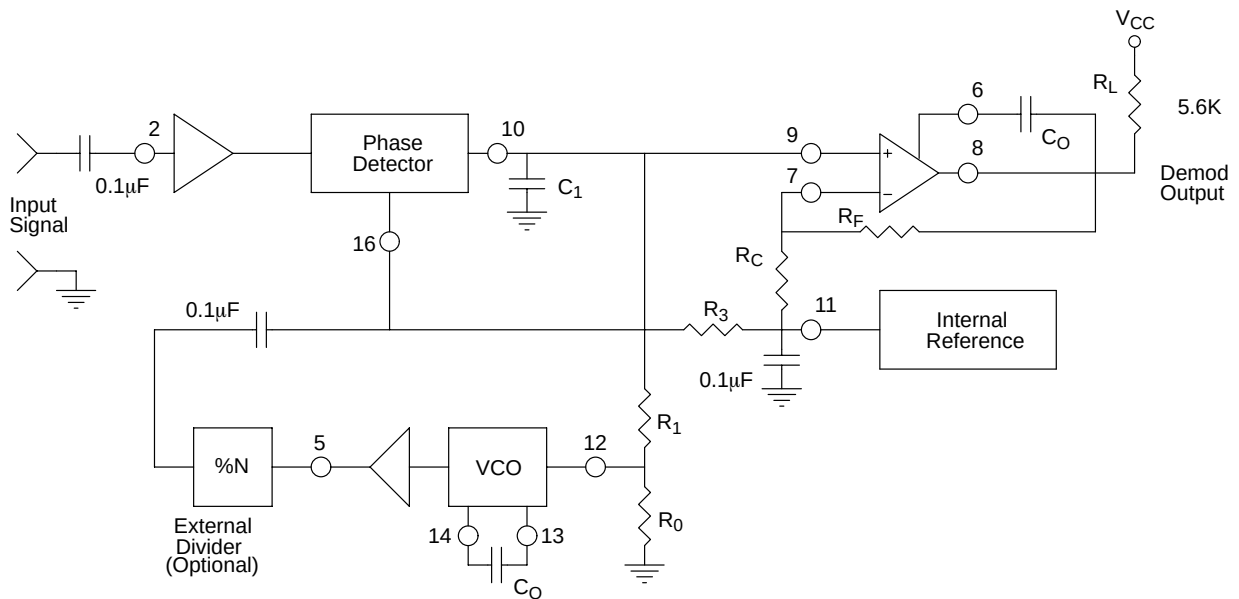
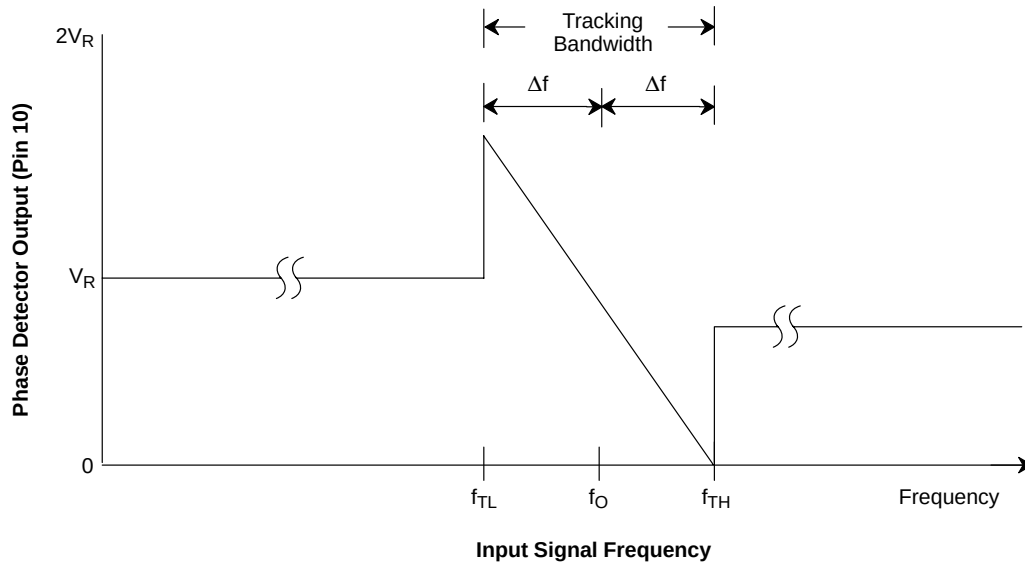
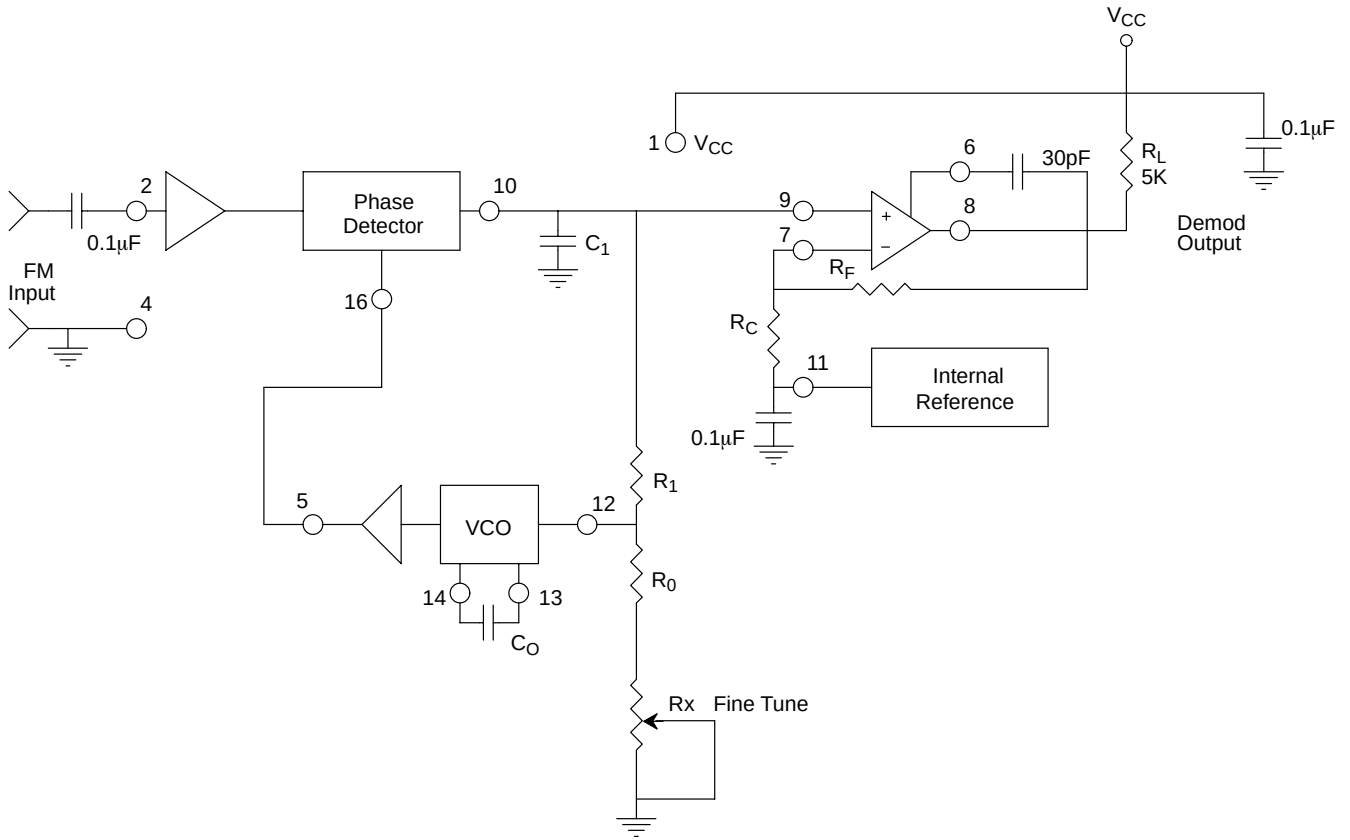

Figure 3. Generalized Circuit Connection for FM Detection, Signal Tracking or Frequency Synthesis
Figure 10. Phase Detector Output Voltage (Pin 10) as a Function of Input Signal Frequency
Figure 11. Circuit Connection for FM Demodulation
Test Conditions: $V_{CC} = +12V$, $T_A = +25^\circ C$, $R_0 = 30k\Omega$, $C_0 = 0.033\mu F$, unless otherwise specified. See *Figure 3* for component designation.
Phase Detector Output (Pin 10): This terminal provides a high-impedance output for the loop phase-detector. The PLL loop filter is formed by R_1 and C_1 connected to Pin 10 (see Figure 3). With no input signal, or with no phase-error within the PLL, the DC level at Pin 10 is very nearly equal to V_{REF} . The peak voltage swing available at the phase detector output is equal to $\pm V_{REF}$.
VCO Frequency Adjustment: VCO can be fine-tuned by connecting a potentiometer, R_X , in series with R_0 at Pin 12 (see Figure 11).
Figure 10 shows the basic frequency to voltage characteristics of XR-2212. With no input signal present, filtered phase detector output voltage is approximately equal to the internal reference voltage, V_{REF} at Pin 11. The PLL can track an input signal over its tracking bandwidth, shown in the figure. The frequencies f_{TL} and f_{TH} represent the lower and the upper edge of the tracking range, f_0 represents the VCO center frequency.
(See *Figure 3* and *Figure 10* for definition of components.)
7. VCO Conversion Gain, K_0 : (K_0 is the amount of change in VCO frequency, per unit of DC voltage change at Pin 10. It is the reciprocal of the slope of conversion characteristics shown in *Figure 10*).
XR-2212 can be used as a linear FM demodulator for both narrow-band and wide-band FM signals. The generalized circuit connection for this application is shown in *Figure 11*, where the VCO output (Pin 5) is directly connected to the phase detector input (Pin 16). The demodulated signal is obtained at phase detector output (Pin 10). In the circuit connection of *Figure 10*, the op amp section of XR-2212 is used as a buffer amplifier to provide both additional voltage amplification as well as current drive capability. Thus, the demodulated output signal available at the op amp output (Pin 8) is fully buffered from the rest of the circuit.
In the circuit of *Figure 11*, R_0C_0 set the VCO center frequency, R_1 sets the tracking bandwidth, C_1 sets the low-pass filter time constant. Op amp feedback resistors R_F and R_C set the voltage gain of the amplifier section.
The circuit of *Figure 11* can be tailored to any FM demodulation application by a choice of the external components R_0 , R_1 , R_C , R_F , C_0 and C_1 . For a given FM center frequency and frequency deviation, the choice of these components can be calculated as follows, using the design equations and definitions given on page 10.
Note: All calculated component values except R_0 can be rounded-off to the nearest standard value, and R_0 can be varied to fine-tune center frequency, through a series potentiometer, R_X , (See Figure 11).
The total tracking range of the PLL (see Figure 10), should be chosen to accommodate the lowest and the highest frequency, f_{max} and f_{min} , to be synthesized. A recommended choice for most applications is to choose a tracking half-bandwidth Δf , such that:
- d) Calculate R_1 to set tracking bandwidth (see Figure 10 and design equation 5). If a range of output frequencies are desired, set R_1 to get: